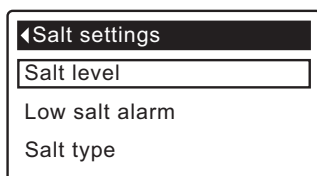

FIG. 30
3. Press the SELECT (O) button to display the Salt settings menu (See Figure 30).
7. Press the SELECT (O) button. The display will go back to the Salt settings menu (Figure 30).